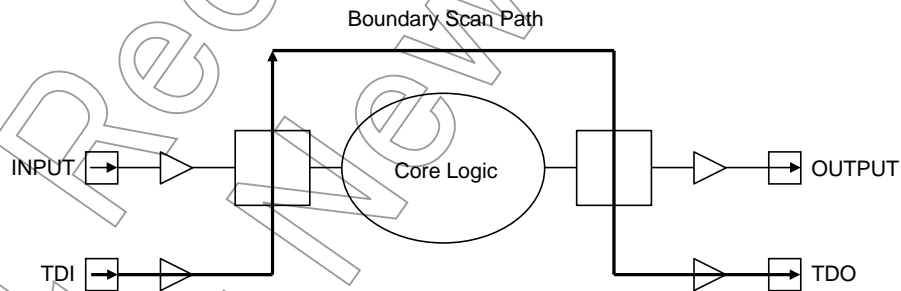

Figure 6.4.3 Test Data Flow While PRELOAD is Selected
- PRELOAD allows the boundary scan register to be initialized before another instruction is selected. For example, prior to selection of the EXTEST instruction, initialization data is shifted into the boundary scan register using PRELOAD as described in the previous subsection. PRELOAD permits shifting of the boundary scan register without interfering with the normal operation of the system logic. The flow of data for the PRELOAD phase of the SAMPLE/PRELOAD instruction is shown in Figure 6.4.3.